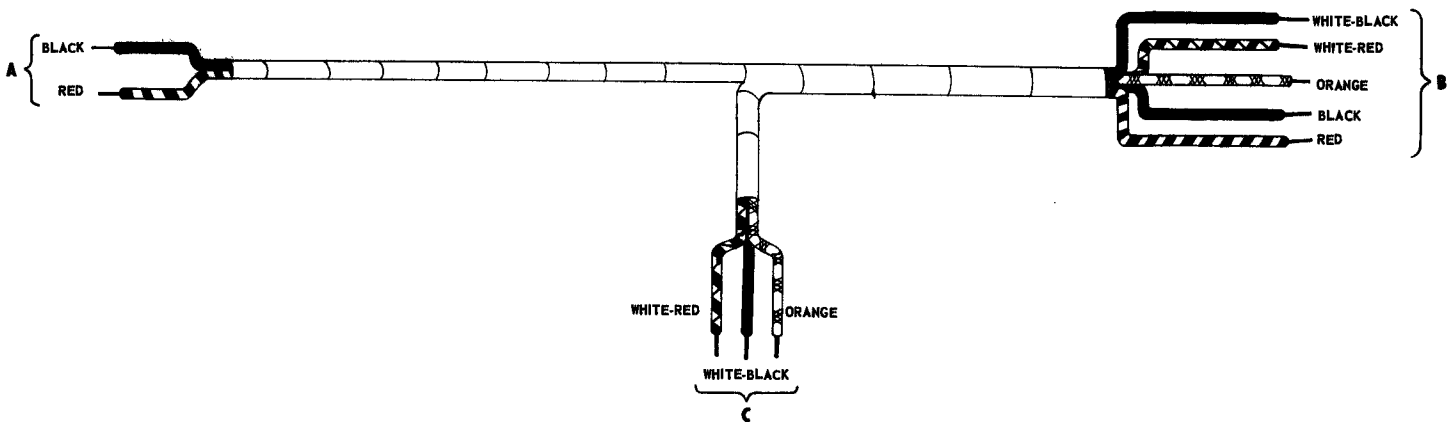

Figure 20. Small Wiring Harness.
- 50. Lay out the small harness so it appears as in Fig. 20. Identify the various branches and wire colors.
- 54. Route the white lead with red tracer of branch C to lug 2 of tie strip TS-2. Trim to length and remove  $\frac{1}{4}$ " insulation from the end. Connect to lug 2 of TS-2. (NS).